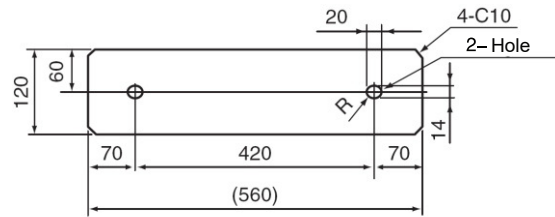

Fig. 3.1 Frame and Base Installation
(6) The drain holes are working during the heating and defrosting operation. Choose a place where well drainage is available, or provide a groove for draining.
(7) The whole of the base of the outdoor unit should be installed on a foundation. When using vibration-proof mat, it should also be positioned in the same way. When installing the outdoor unit on a field-supplied frame, use metal plates to adjust the frame width for stable installation as shown in Fig. 3.1.